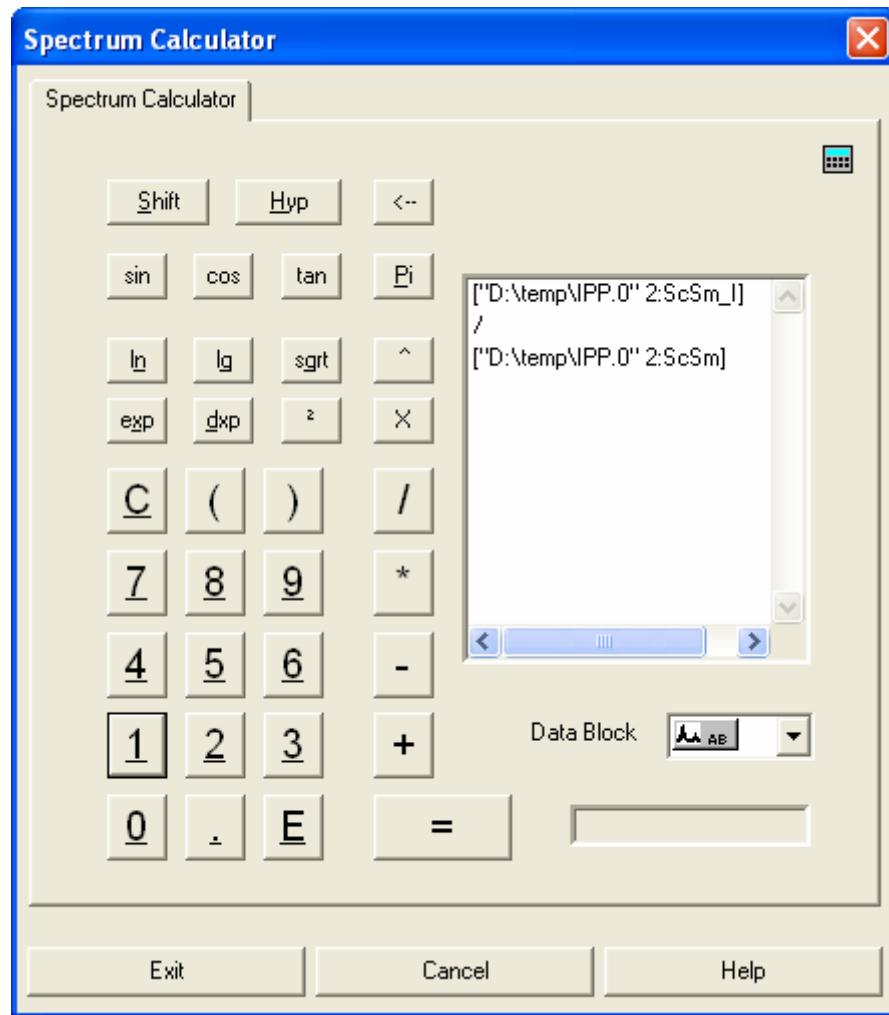

Fig. 31: Spectrum Calculator – Calculating the in-phase absorbance change of the sample
- The out-of-phase absorbance change is calculated by dividing the out-of-phase single channel sample spectrum “SSC” by the constant single channel sample spectrum “SSC”. Perform this calculation with the spectrum blocks of the copied file. (See figure 31.)